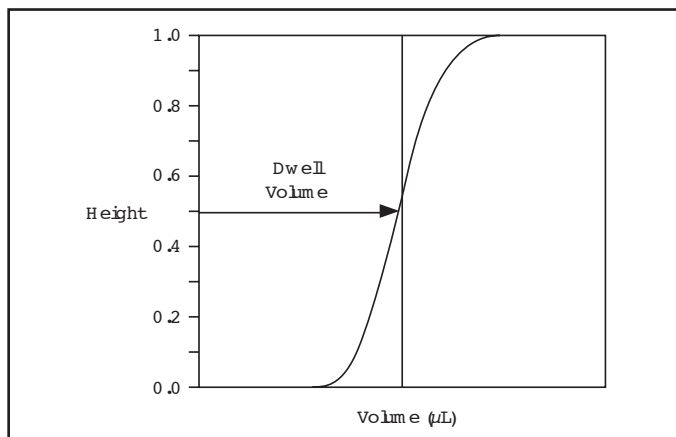

Figure 5: Determination of Dwell Volume
3. Equilibrate the system with eluent A until a stable baseline is achieved. Switch to 100% eluent B and record the half height of the step. Refer to Figure 5 for an illustration.